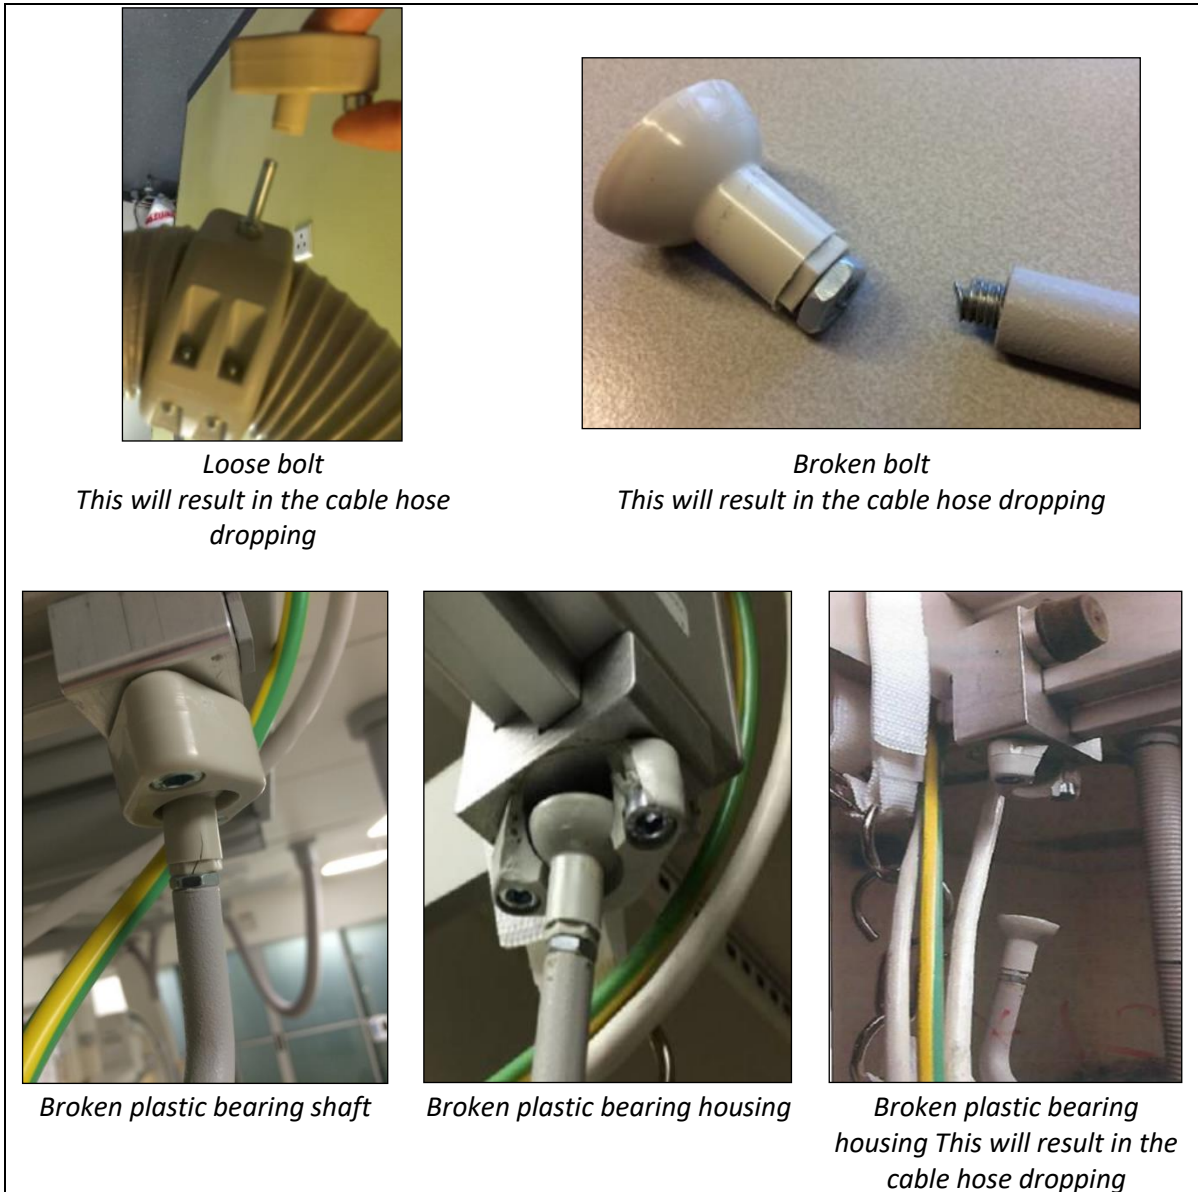

Figure 2: Examples of loose and broken bolts and plastic parts
- d. If you notice loose or broken bolts and/or broken plastic parts of the Cable Hose Carriers (see Figure 2), please contact your local Philips representative immediately.